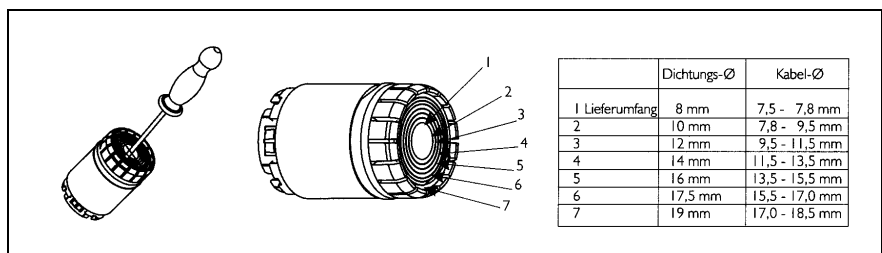

Fig. 2-27: INS0682 adapting the cable clamp
2. Adapt variable cable clamp (D) to the cable diameter by pushing out excess sealing ring with a screw driver (see Fig. 2-27)